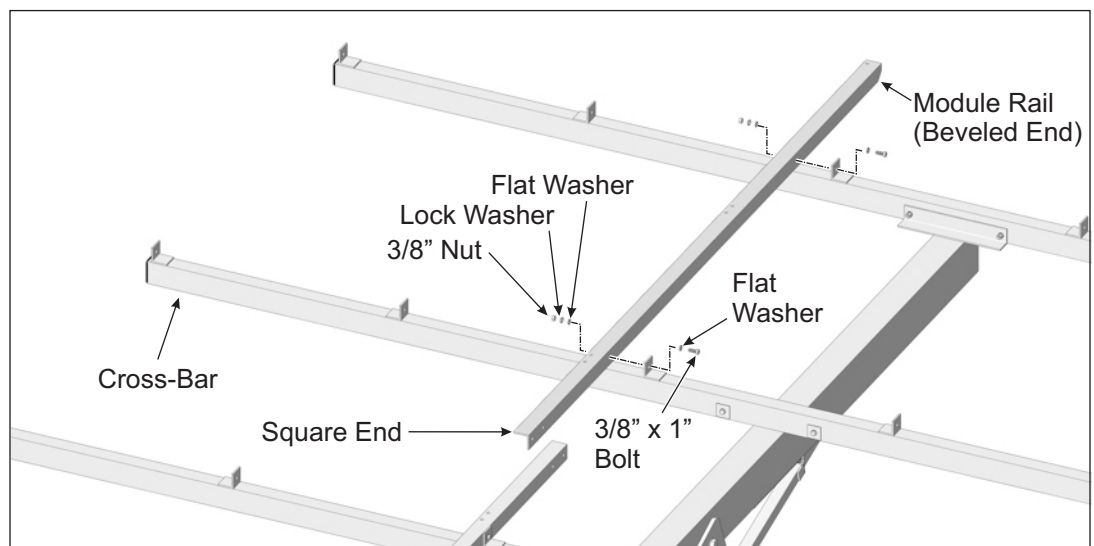

Figure 4-3: Installing northern inboard Module Rail to Cross-Bars
- B. Next, install the northern Module Rail creating a butt-joint with the previously installed Module Rail. Align the Module Rail mounting holes with the holes of the Cross-Bar mounting tabs and secure with 3/8" x 1" bolts and hardware. Finger-tighten for now. (See Figure 4-3)